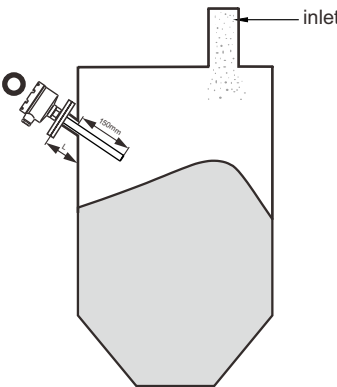

Fig 6
- ※ When you install the probe into tank nozzle,please note probe length has to be 150mm loger than nozzle at least.(Fig 6)